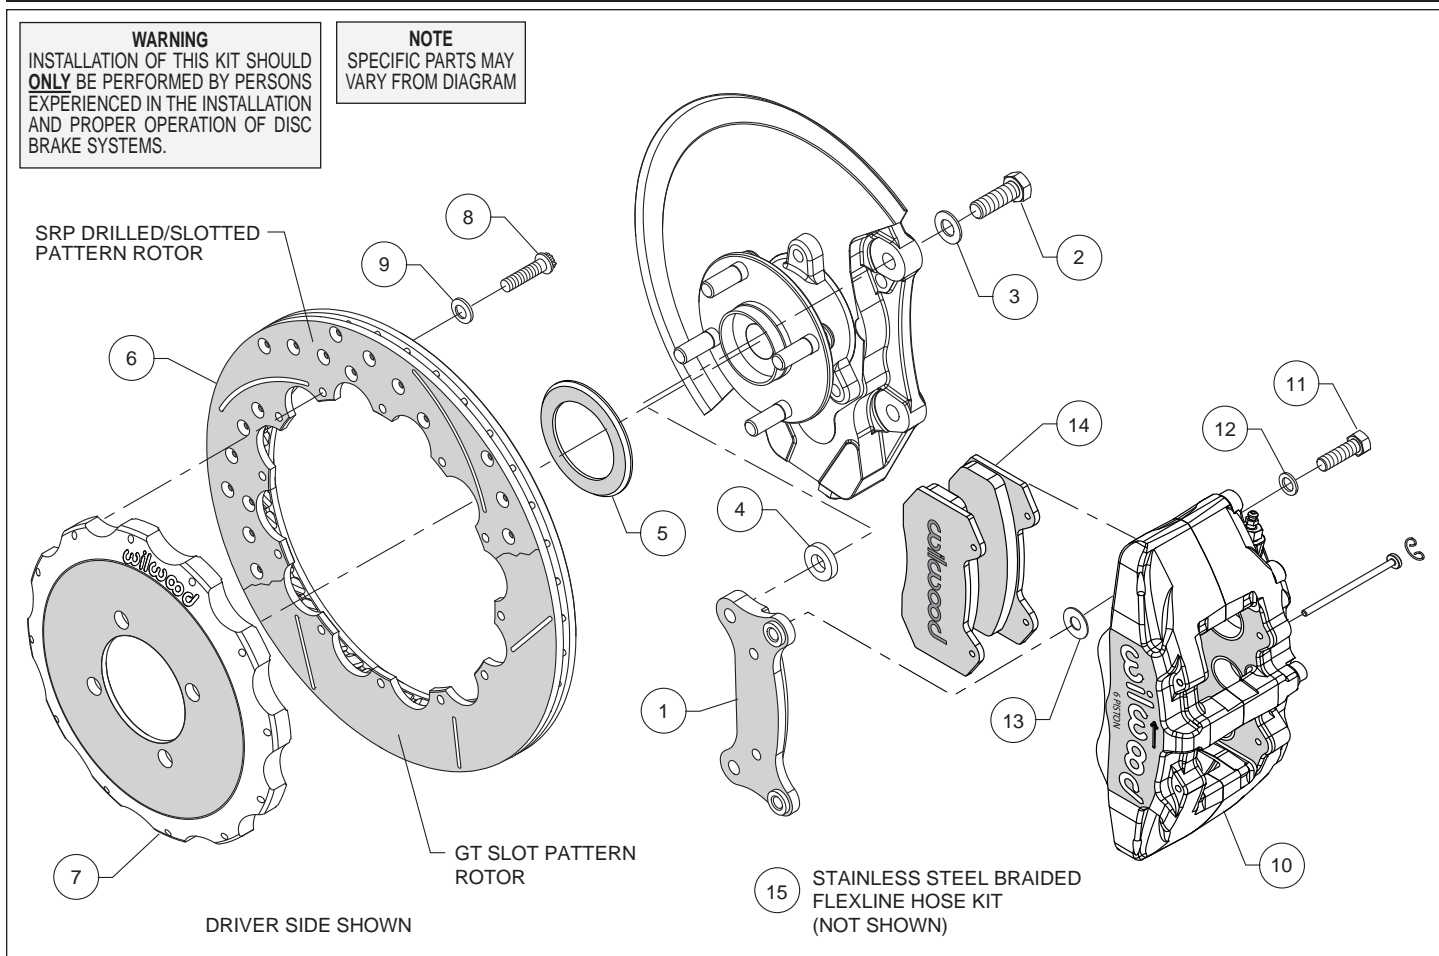
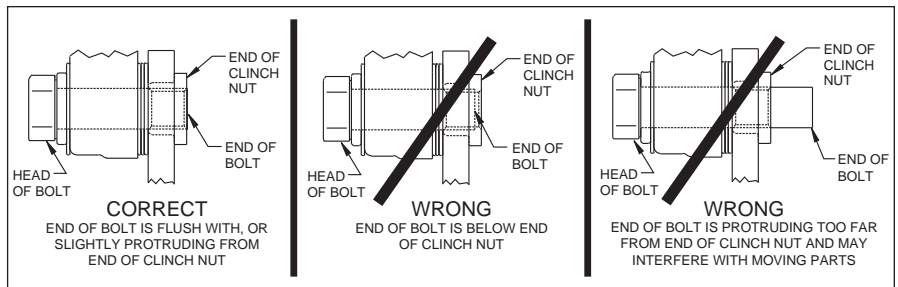

Figure 1. Typical Installation Configuration
Figure 3. Clinch Nut Engagement Diagram
Assembly Instructions (numbers in parenthesis refer to the parts list and Figure 1 on the preceding pages): **CAUTION:** All mounting bolts must fully engage clinch nuts. Be sure to check that all bolts are either flush or protruding through flanged side of clinch nut after shimming, Figure 3.
- Orient the caliper mount bracket (1) as shown in Figure 1 and Photo 1, and install using bolts (2) and washers (3). Place a spacer (4) on each bolt between the bracket and upright mounting boss, Figure 1 and Photo 2. Ensure that the flanged heads of the clinch nuts in the bracket are facing outboard, Photo 1. Temporarily tighten the mounting bolts. **NOTE:** The bracket must fit squarely against the mount bosses on the upright. Inspect for interference from casting irregularities, machining ridges, burrs, etc. Remove bolts one at a time, apply red *Loctite*[®] 271 to the threads and torque to 60 ft-lb.
- Orient the rotor (6) and the hat (7) as shown in Figure 1 and Photo 3. Attach rotor to hat using bolts (8) and washers (9). Using an alternating sequence, apply red *Loctite*[®] 271 to the threads, and torque to **155 in-lbs.**
- **NOTE:** Please reference the caution statement at the beginning of the assembly instructions. This kit contains distinct right and left hand calipers that must be mounted in a specific direction, as described below. Mount the caliper (10) onto the caliper mounting bracket (1) using bolts (11) and washers (12), as shown in Figure 1. Initially place one .035" thick shim (13) on each bolt between the caliper and the bracket, Photo 6. Ensure that the caliper is mounted so the largest pistons are at the rotor exit end of the caliper, in relation to the direction of rotor rotation. Temporarily tighten the mounting bolts and view the rotor (6) through the top opening of the caliper. The rotor should be centered in the caliper, Photo 7. If not, adjust by adding or subtracting shims between the bracket and the caliper. Always use the same amount of shims on each of the two mounting bolts. **NOTE:** The end of each bolt must be flush with or slightly protruding from the head of the clinch nut, as shown in Figure 3. If necessary place spare shims between washer (12) and caliper mounting ear to achieve the proper clinch nut engagement. Once the caliper alignment and clinch nut engagement are correct, remove the mounting bolts, shims and caliper.
- Remove the two pad retaining pins from the caliper (10) by carefully popping out the pin retaining clips and sliding out the pins. Insert the brake pads (14) into the caliper from the bottom, Figure 1 and Photo 8, with the friction material facing the rotor. Secure